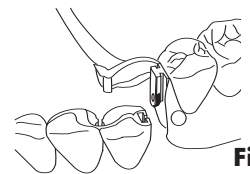

Fig. 5
8. As stated above, it is always a good idea to incorporate a lingual bracing arm into the partial frame design. This bracing arm reduces the tensile and compressive forces on the attachment, aids in lateral stability, and helps to guide the male portion of the attachment into the female as the patient inserts the denture. This bracing arm becomes necessary when the attachment is reduced to 4.0mm or less (Fig 5).